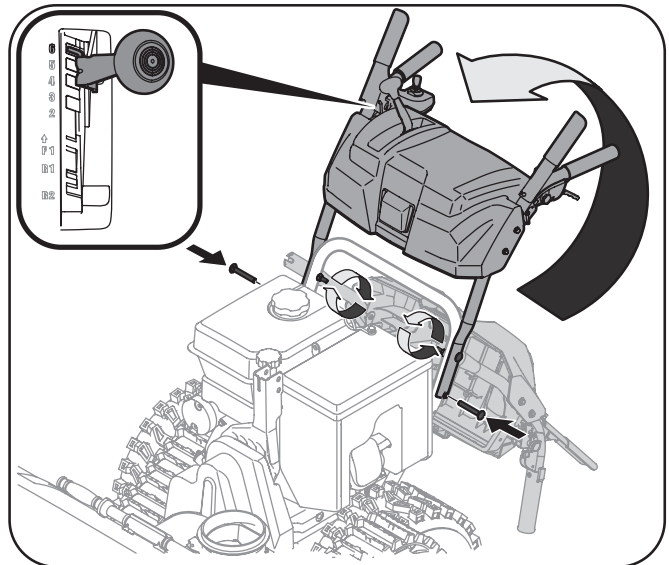

Figure 3-2
3. Observe the lower rear area of the snow thrower to be sure both cables are aligned with roller guides before pivoting the handle upward. See Figure 3-2.